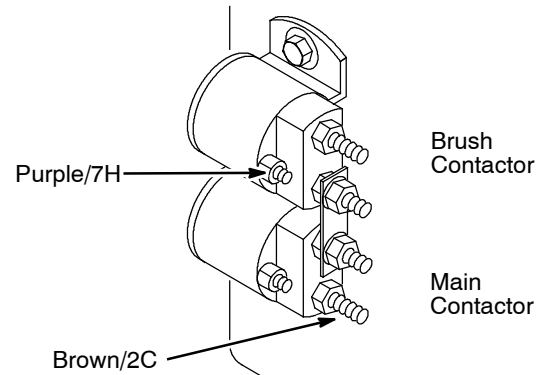

Fig. 8
3. Connect the remaining ec-H2O harness wires to the contactor terminals as shown (Figure 8). After connecting harness, close the control console.